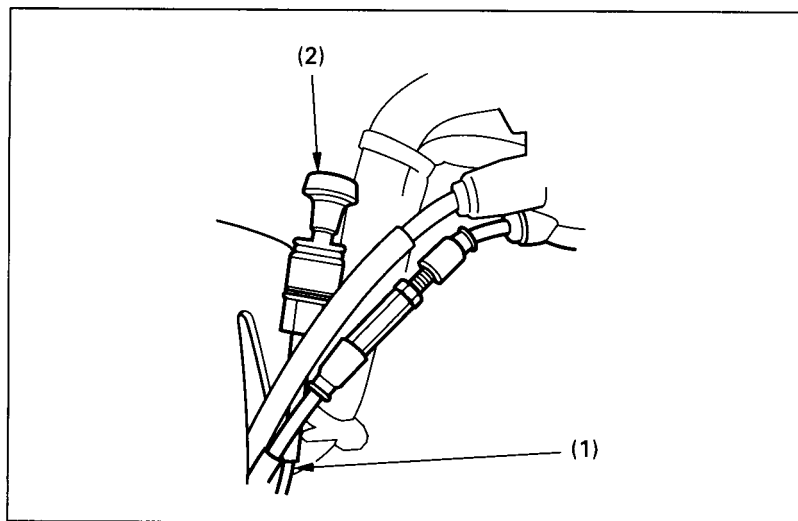

Fig. 4-7
Check the condition of the choke cable (Fig. 4-7) and the operation of the choke knob (2). If the cable is damaged or kinked, have it replaced by your Honda dealer.